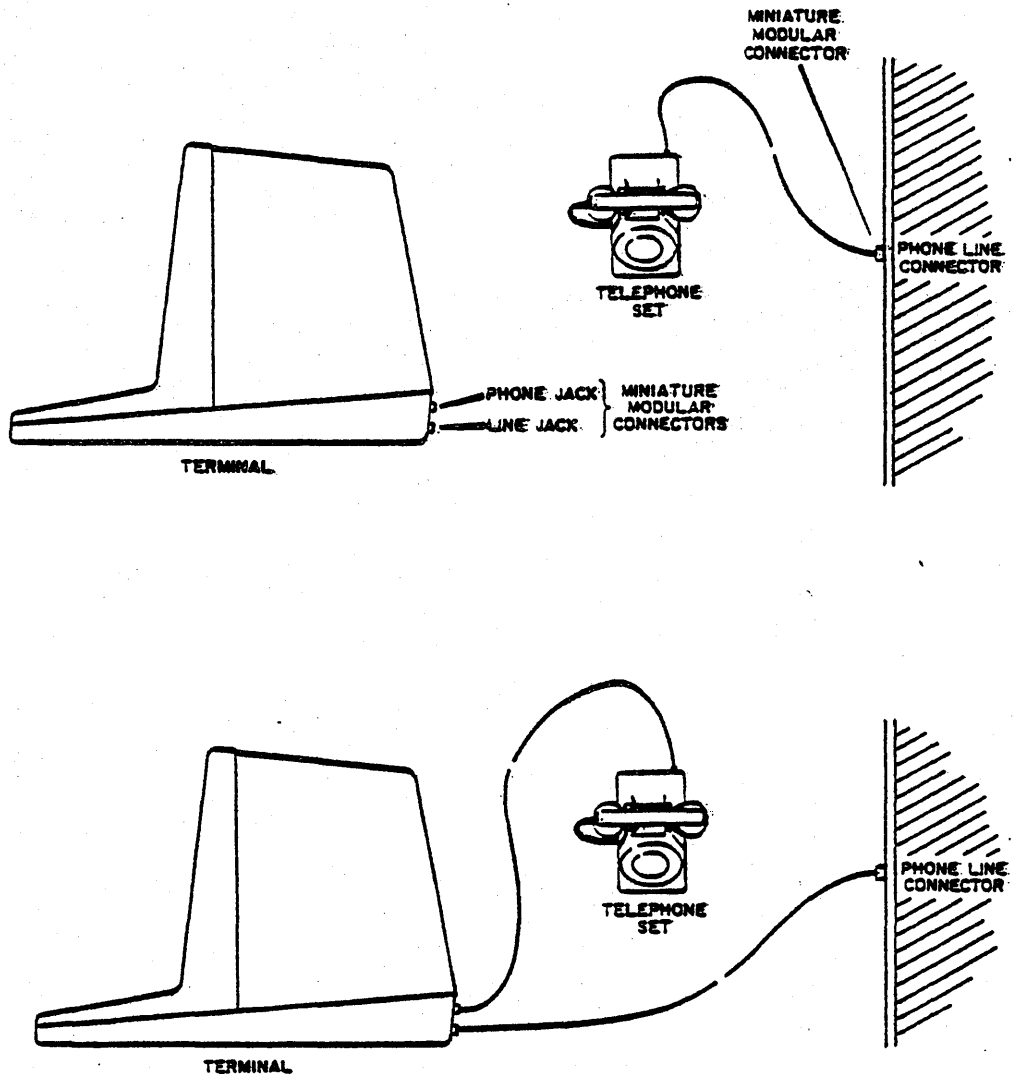

Figure C-3. Terminal/Telephone Connectors
The jack labeled PHONE must be connected to the phone set, and the jack labeled LINE must be connected to the phone line leading to the wall. Refer to figure C-3.
3. If internal modem is being employed, unplug the telephone set from the wall jack and plug it into the terminal jack labeled PHONE. Using the telephone cable supplied with the terminal, connect the terminal to the telephone line by plugging one end of this cable into the terminal jack labeled LINE and the other end into the wall jack (see figure C-3).